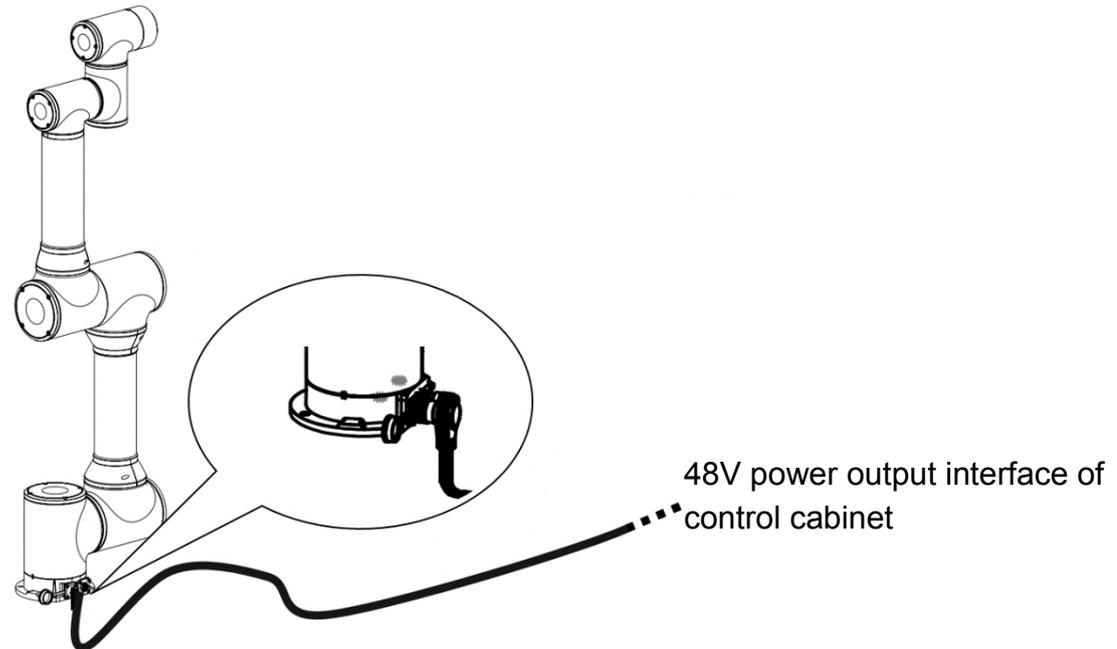

Figure 5-12 48V d.c. power connection diagram
Step 3 Insert the other end of the power cable into the 48V d.c. output interface of the control cabinet, as shown in Figure 5-12.